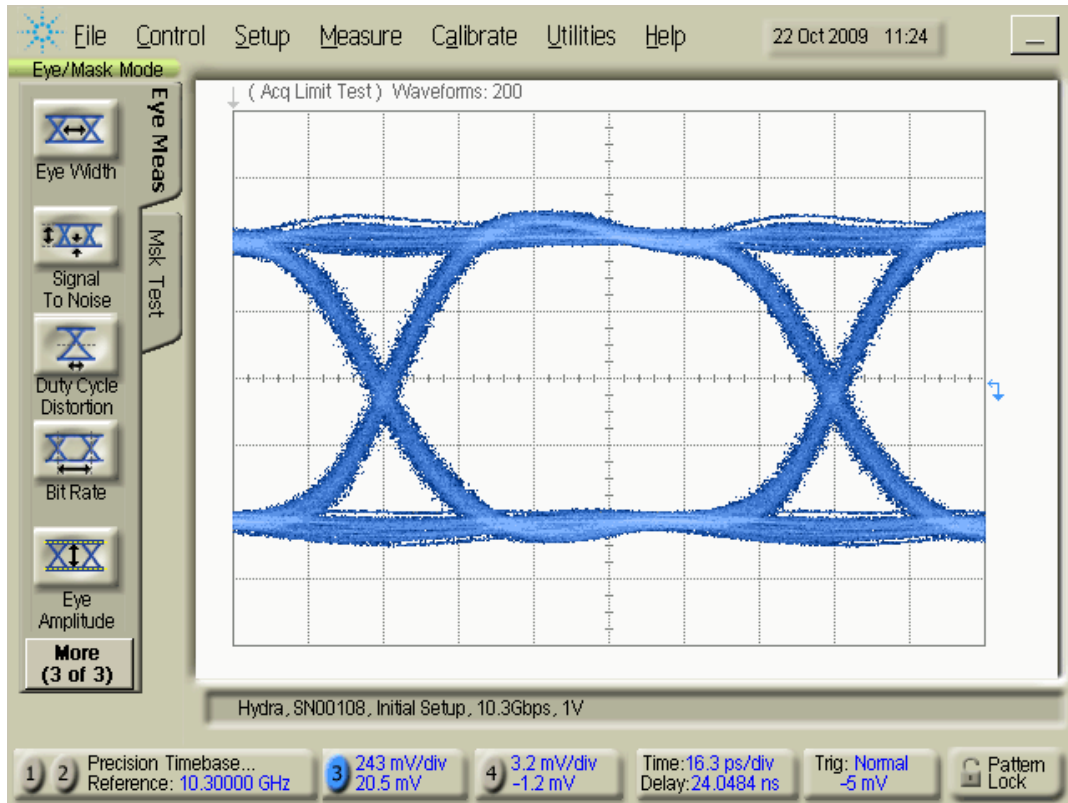

Figure 2. Installation setup waveform
15. Verify that the waveform is similar to the one shown in Figure 2.